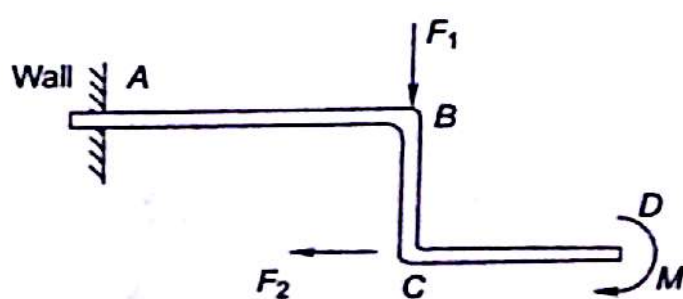

Fig. 3.55
- 3.2 A bent rod ABCD, is fixed on wall and subjected to forces F_1 , F_2 and a moment M as shown in Fig. 3.55. Draw free body diagram of bent rod.